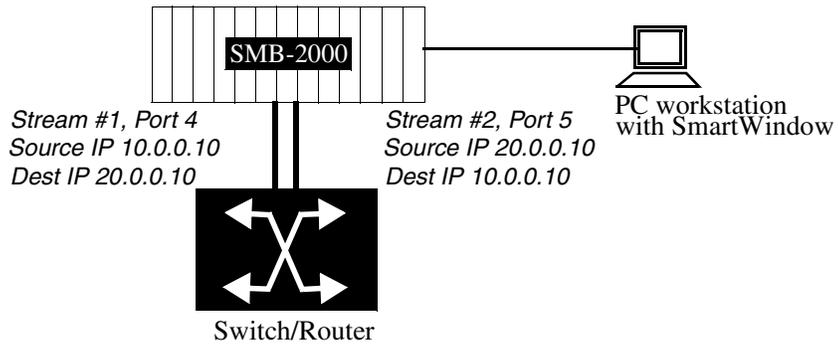

Figure 7-2. Stream IP addresses by port association
- Choose *IP* from the Protocol pull-down menu, and click *OK*. Use *Figure 7-2* as a guide for entering the IP addresses of the streams.
Important: The MAC and IP addresses of streams must be *unique* to the streams and cannot be used for SMB or DUT ports. The Source IP addresses of each stream and its associated SMB port should be on the same subnet as its associated router gateway. For Layer 3 routing tests, each pair of SMB and DUT ports should be on the separate subnets as suggested in *Figure 7-2*.